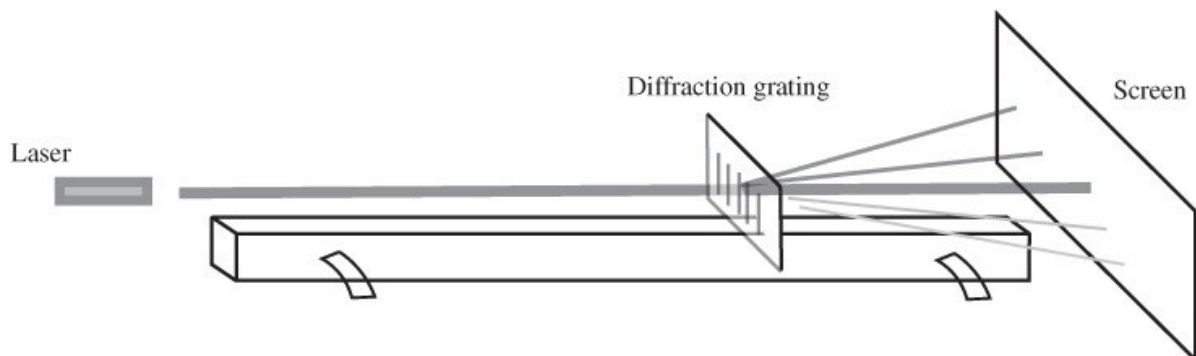

Figure 82-1 *Apparatus used for this project.*
4. Hold (or secure) the laser pointer, so the laser beam is directed perpendicular to the diffraction grating. See Figure 82-1.